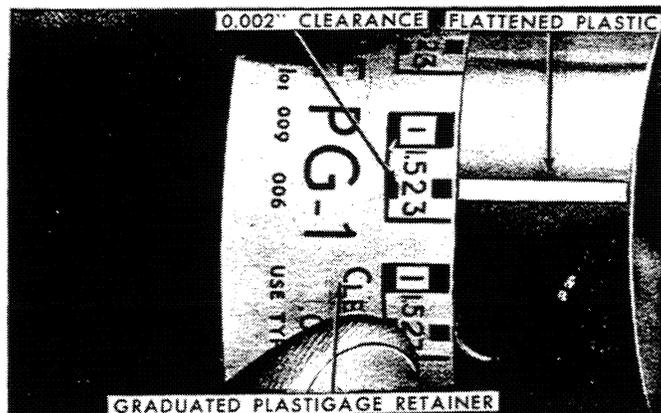

Figure 31
2. Remove the bearing cap and use the Plastigage scale to measure the width of the flattened plastic at the widest point, as shown in Figure 31.
3. Remove the bearing cap. Without moving the plastic, check its width at the widest point with the graduations on the Plastigage container, as shown in Figure 31.